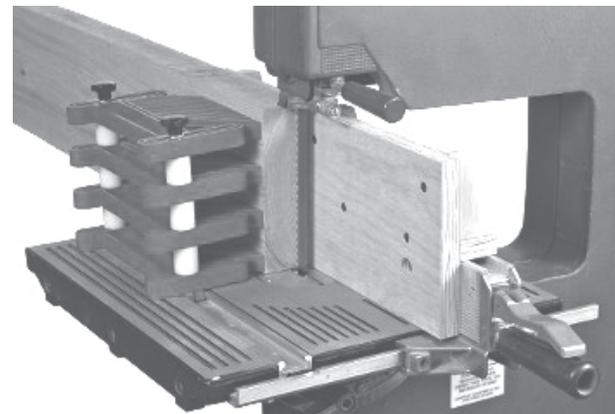

Figure 10
2. Use a handsaw to cut through the Expansion Bar at the intersection of the "X", as shown in Figure 10.